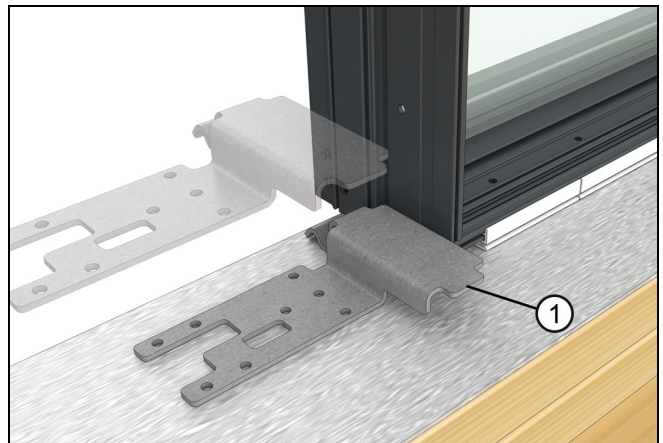

Figure 117
10. Temporarily position the mull bracket on the sill. Shim to get the bracket to the correct height if the unit does not sit flat on the sill plate. The bracket should sit flush with the bottom of the frame/shim block. See Figure 117.